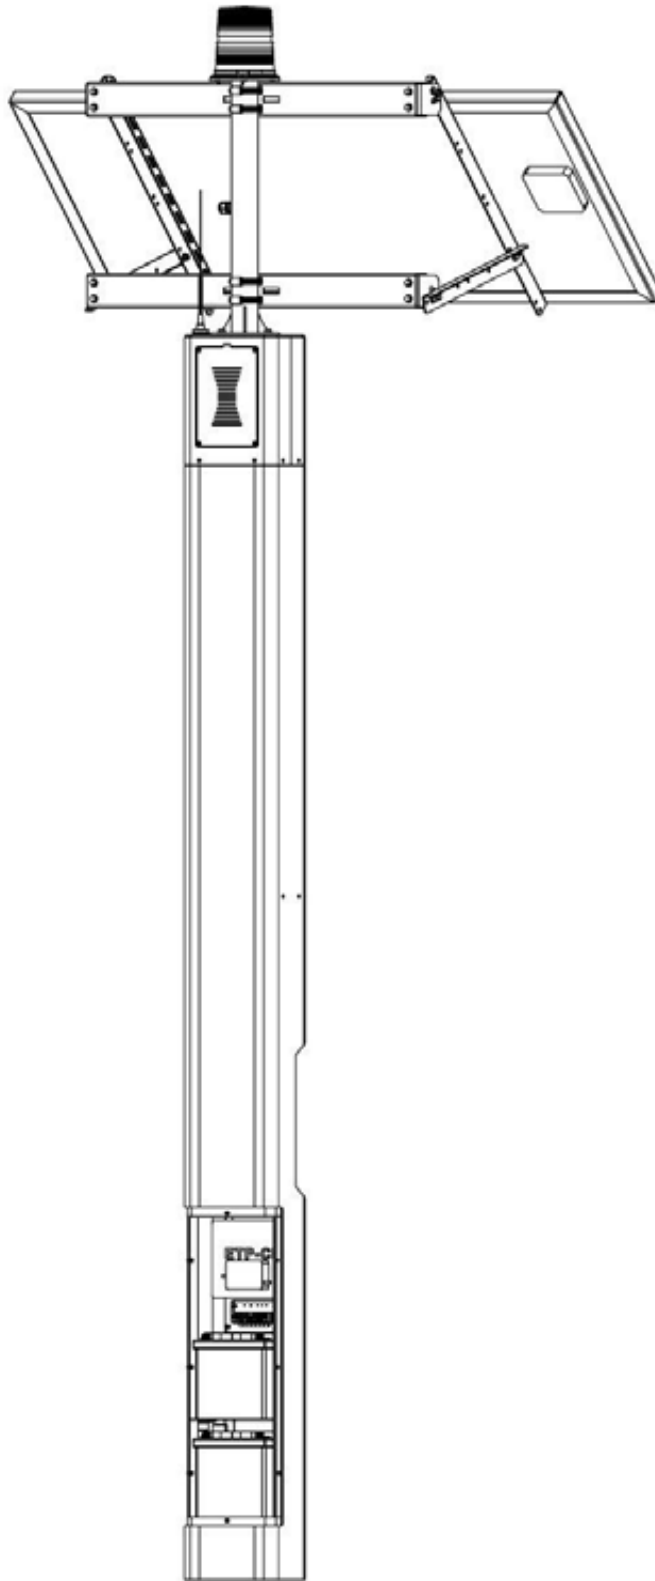

Figure 31. ETP-MTE-WP with access panel removed, assembly overview (SLR-120-84)
11. Refer to **Figure 31** and **32** for a fully assembled view of the **ETP-MTE-WP** and **ETP-MT/R OP SOLAR**.